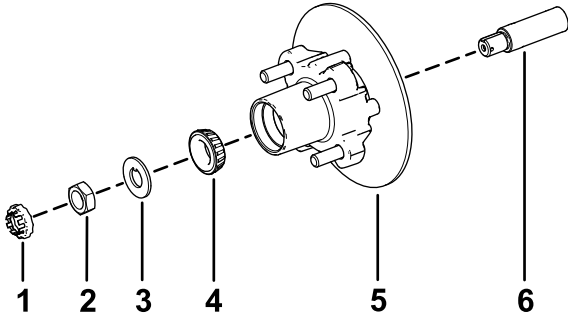

Figure 37
1. Apply a light coat of the specified grease to the spindle (Figure 37).
2. Assemble the hub and rotor onto the spindle with the rotor inboard (Figure 37).
3. Assemble the outboard bearing onto the spindle and seat the bearing to the outboard race (Figure 37).
4. Assemble the tab washer onto the spindle (Figure 37).
5. Thread the spindle nut onto the spindle and tighten the nut to 15 N·m (11 ft-lb), while rotating the hub to seat the bearing (Figure 37).
2. Align the brake pads to either side of the rotor (Figure 33) and the holes in the caliper bracket with the holes in the brake mount of the spindle frame (Figure 37).